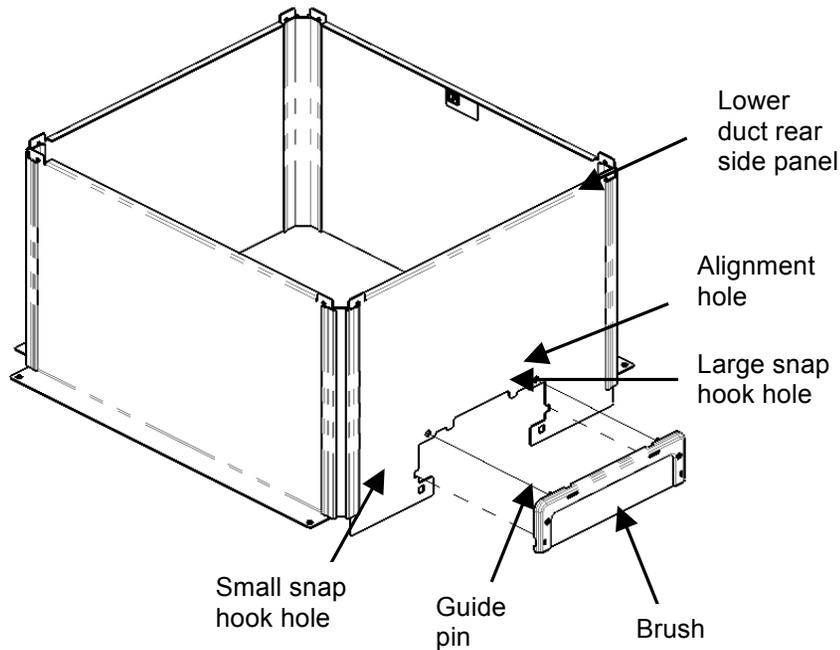

Fig. 3
5. Position brush assembly with its guide pins onto the knockout opening using alignment holes (Fig. 3).